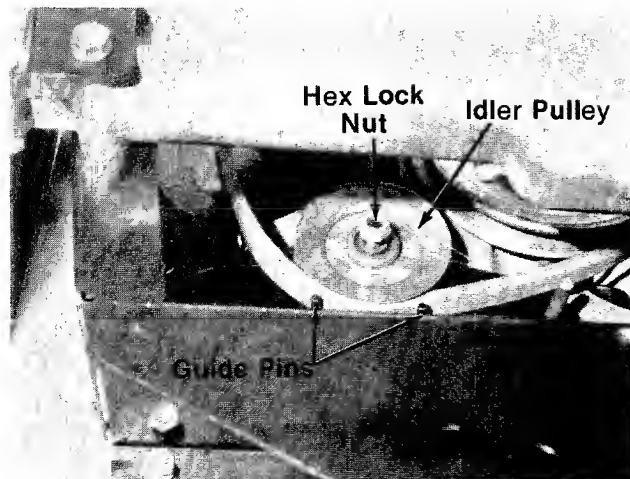

FIGURE 31.
5. Remove the idler pulley by removing the hex lock nut. See figure 31.
10. When sliding the idler pulley on the idler bracket, be certain the belt is between the pulley and guide pins. See figure 31.